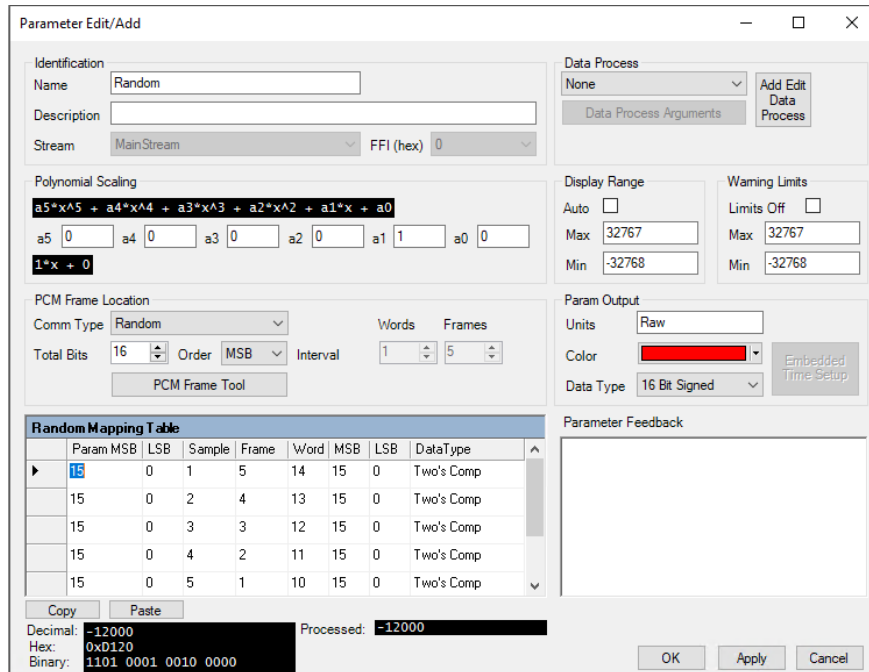

Figure 67 – Parameter Edit/Add Random Commutation
10. For a Random or Random Normal parameters, enter the random sample information into the Random Mapping Table (See **Figure 67 – Parameter Edit/Add Random Commutation**). The Copy and Paste buttons allow copying and pasting of the Random Mapping Table to Excel as a Tab delimited data. This option is useful for complicated decom parameters.